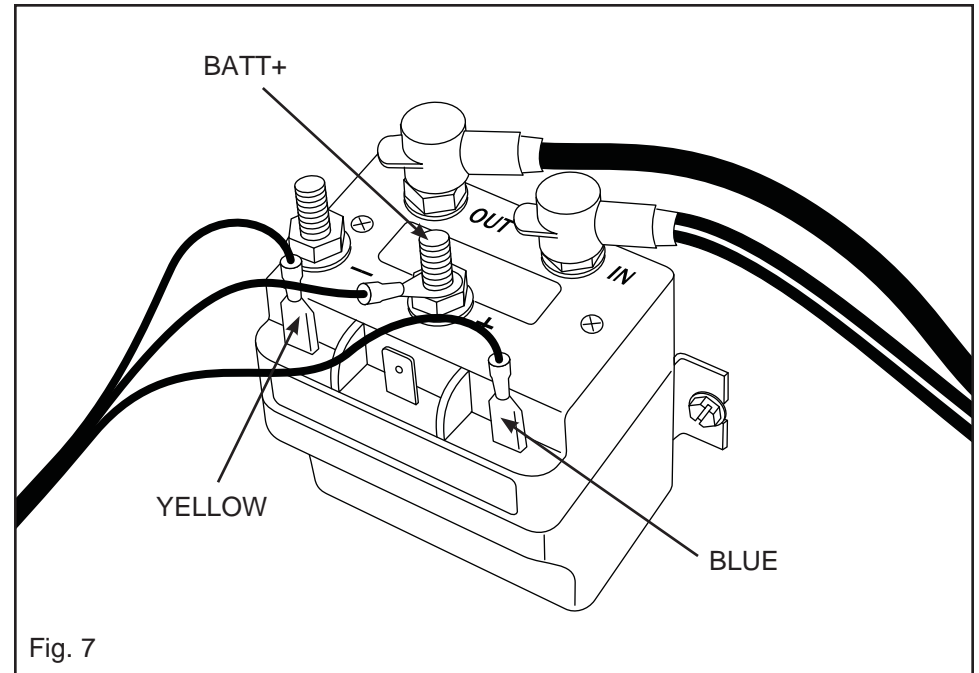

Fig. 7
- C. Attach Black to YELLOW on Solenoid (Fig. 7).
Attach White to BLUE on Solenoid (Fig. 7).
Attach Green to BATT+ on Solenoid (Fig. 7).